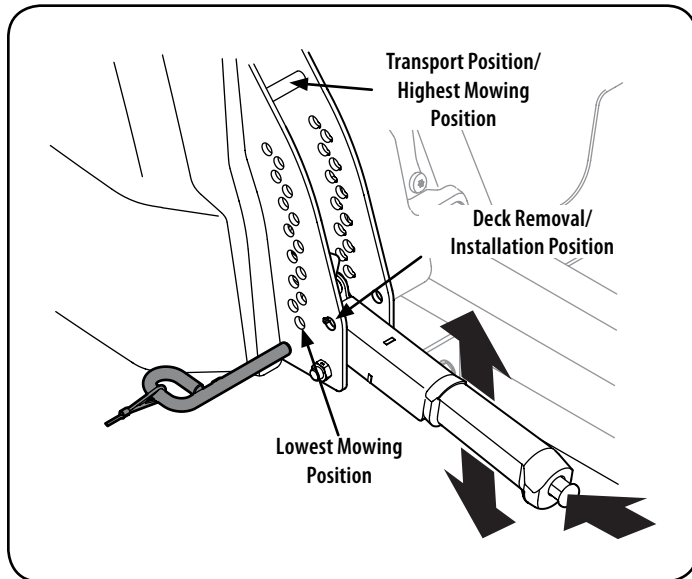

Figure 36
- a. Using the deck lift handle, raise the deck to the position that provides the most horizontal run of the belt between the deck idler pulleys and the PTO pulley on the bottom of the engine. See Figure 36.
- d. Lower the deck into the deck removal/installation position  using the deck lift handle. See Figure 36.
1. Place the deck lift handle in the highest mowing position See Figure 36.